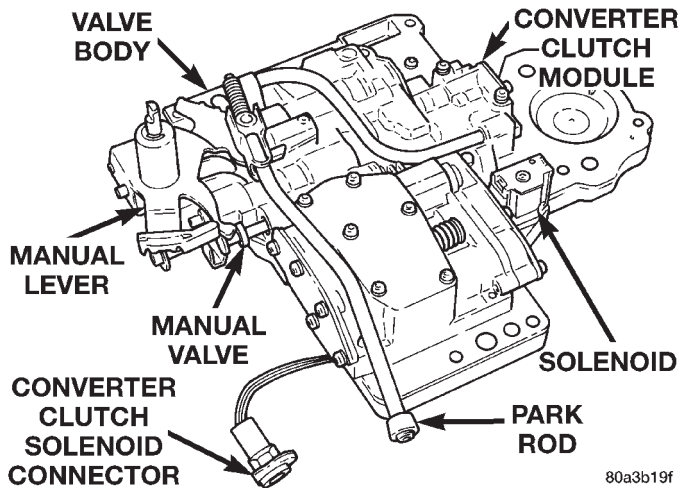

Fig. 33 Valve Body
(11) Lower valve body, rotate it away from case, pull park lock rod out of sprag, and remove valve body (Fig. 33).